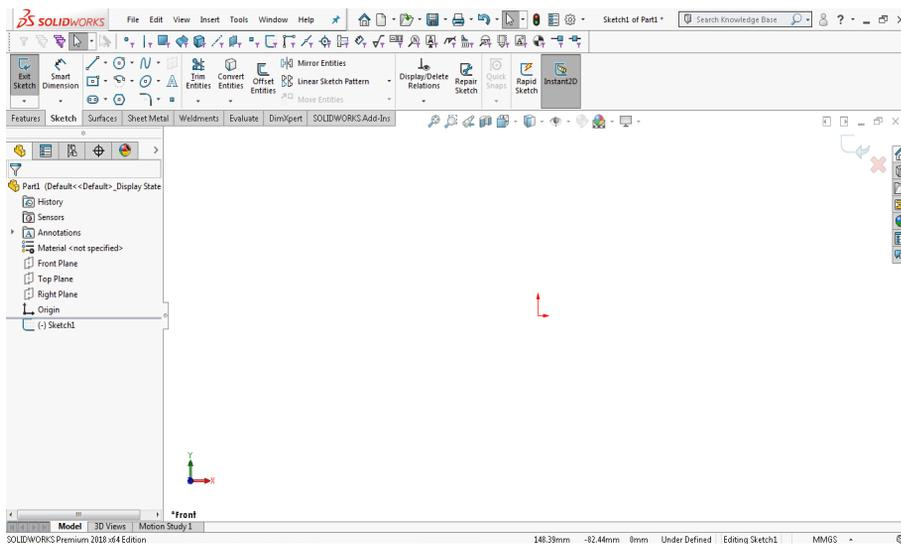

Figure 2-13 Default interface of a part document in the sketching environment
5. Select the **Front Plane** from the graphics area; the sketching environment is invoked and the selected plane gets oriented normal to the view. You will notice that the red colored arrows are displayed at the center of the interface window, indicating that you are in the sketching environment. Also, the confirmation corner with the **Exit Sketch** and **Cancel Sketch** options at the upper right corner in the drawing area is displayed. The window display in the sketching environment of SOLIDWORKS is shown in Figure 2-13.